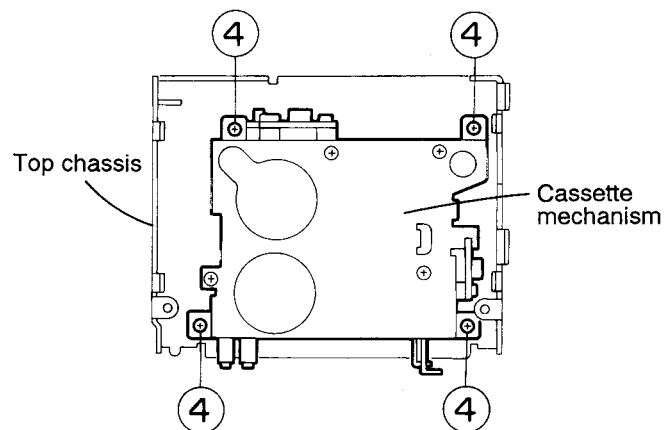

Fig. 2-8
■ **Removing the Cassette mechanism assembly** (See Fig. 2-8)